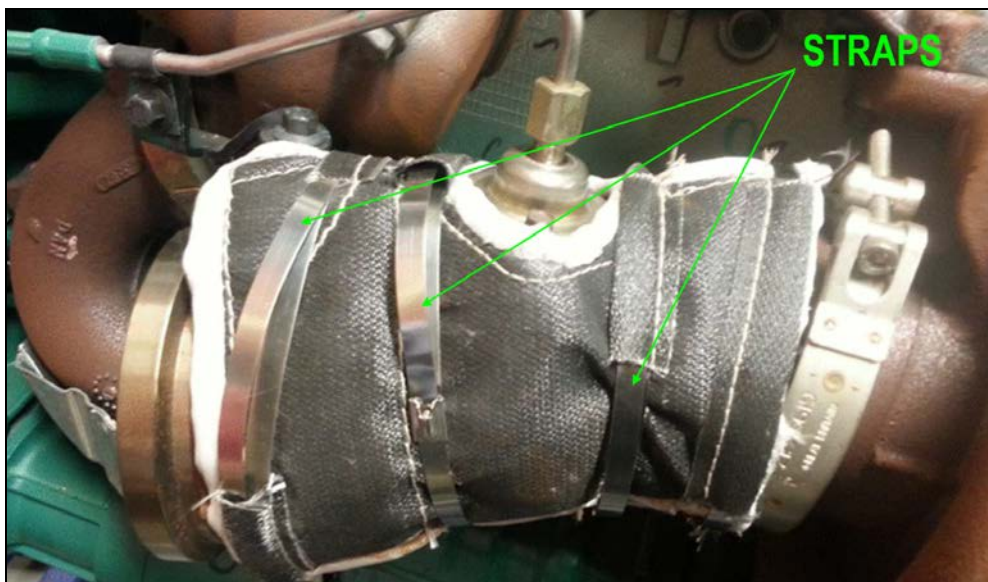

Figure 3
- 4) Secure the insulating wrap to the diffuser using the 3 supplied metal tie straps (Figure 3). Install straps tightly and flatten-out as many wrinkles as possible (tuck the straps excess into the loops on the wrap).